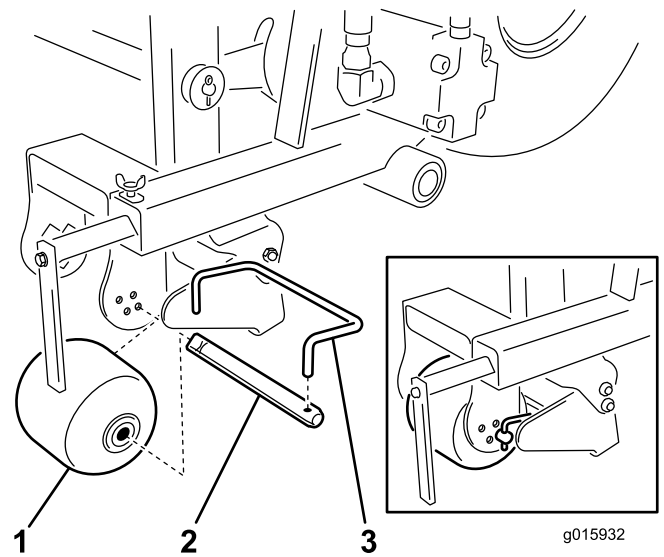

Figure 20
3. Remove the scraper rod from the roller shaft (Figure 20).
4. Remove the roller shaft from the roller (Figure 20).